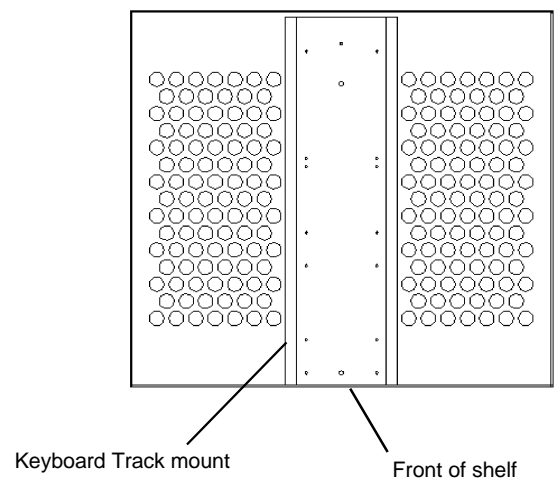

Figure 3
1. Assemble the **Keyboard Track** to the underside of the Shelf before installing the Shelf component to Rack Mount Rails. The Keyboard Track Mount is flush to the Shelf front. See **Figure 3**.